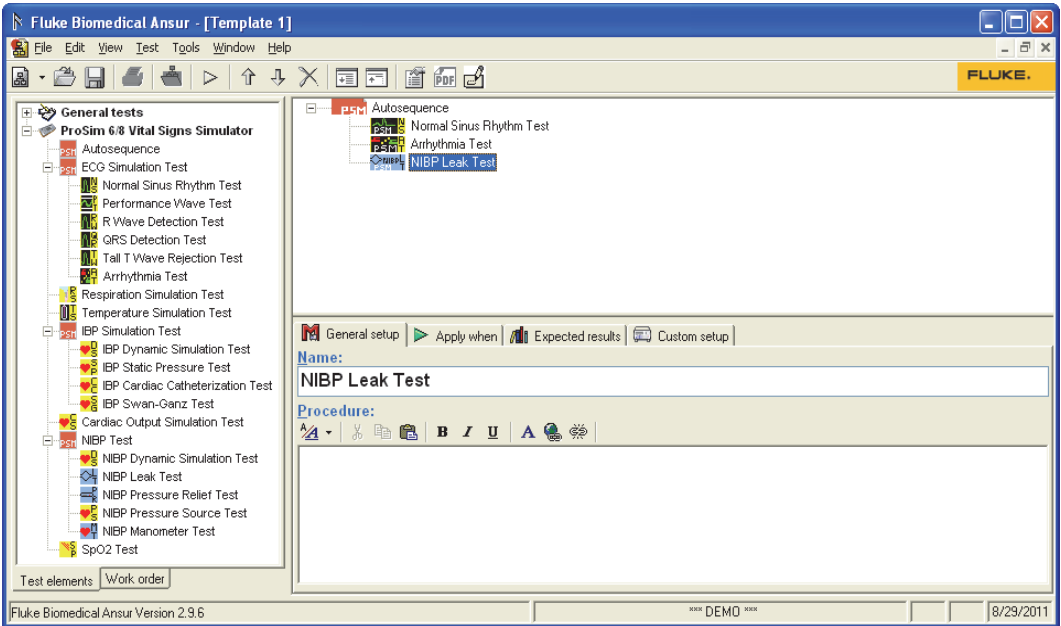

Figure 3-8. Test Template with Autosequence Container
2. Drag and drop an Autosequence container from the Ansur Test Explorer to the test template. Figure 3-8 shows three test elements in an autosequence container in a test template: Normal Sinus Rhythm Test, Arrhythmia Test, and NIBP Leak Test.